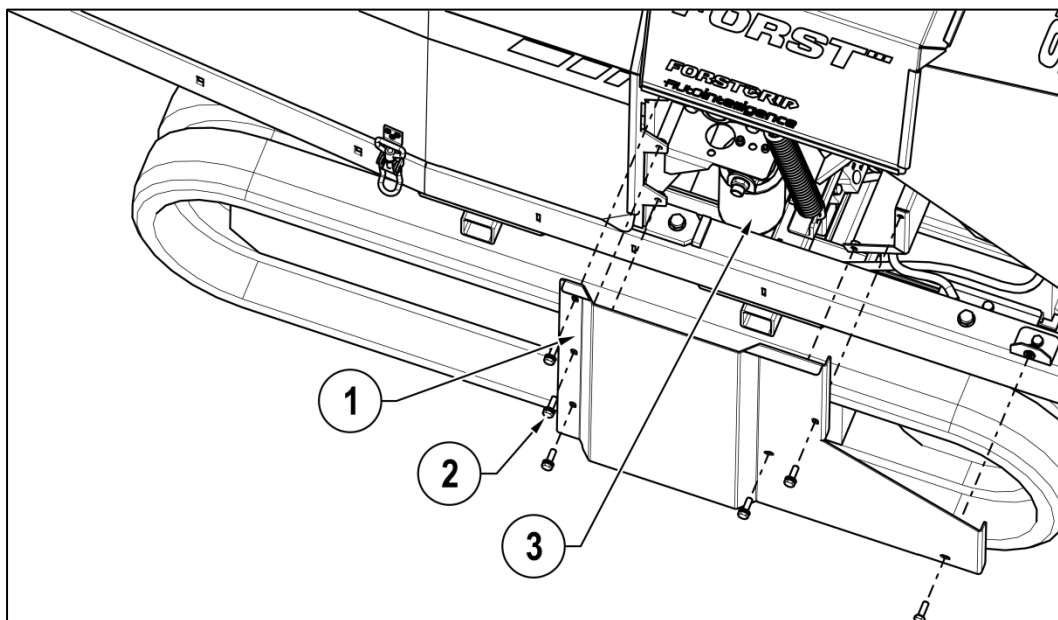

Figure 13
1. The spin-on filter is accessed via the left side panel (see covers Figure 13). Thoroughly clean around filler housing before removing to help prevent debris getting into oil.